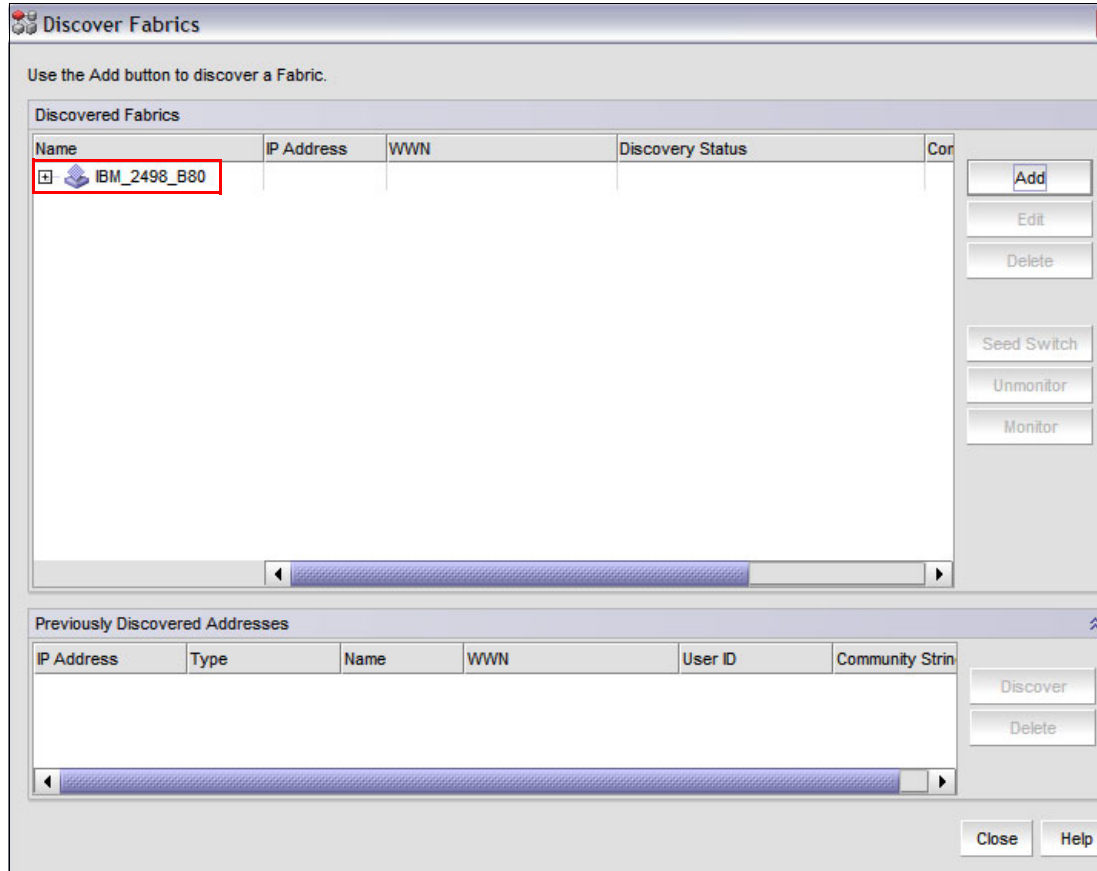

Figure 6-164 Discover Fabrics Main window
9. Figure 6-164 shows the added SAN switch.